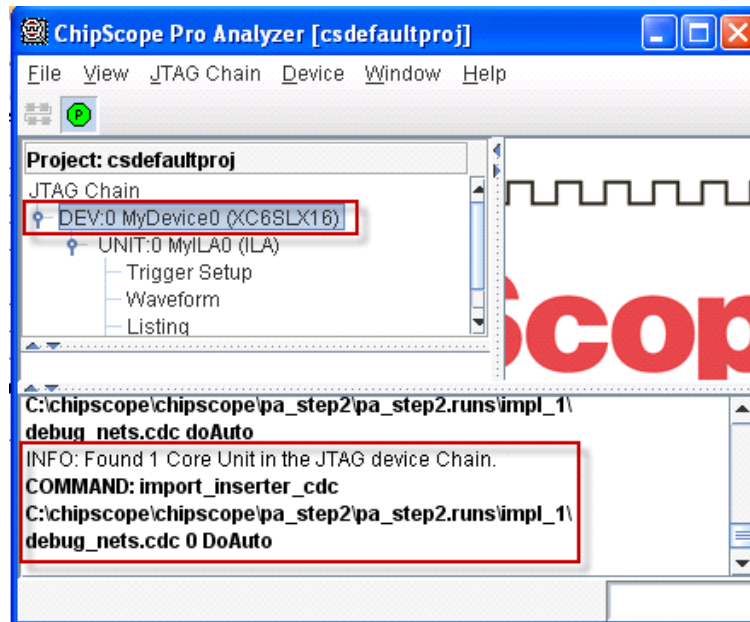

Figure 6: Device Configuration and ILA Core Information
- b. You can now verify the device configuration and ILA core in the ChipScope Pro Analyzer main window, as shown in Figure 6, page 15.
1. With the item **DEV:0 MyDevice0 (XC6SLX16)** expanded, as shown in Figure 6, double-click **Trigger Setup**. The Trigger Setup display appears in the upper right pane.